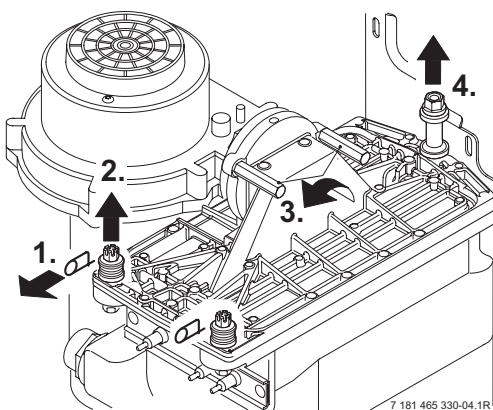

Fig. 56
- Remove the clips (1.) and unscrew the two bolts (2.). Refer to fig. 56.